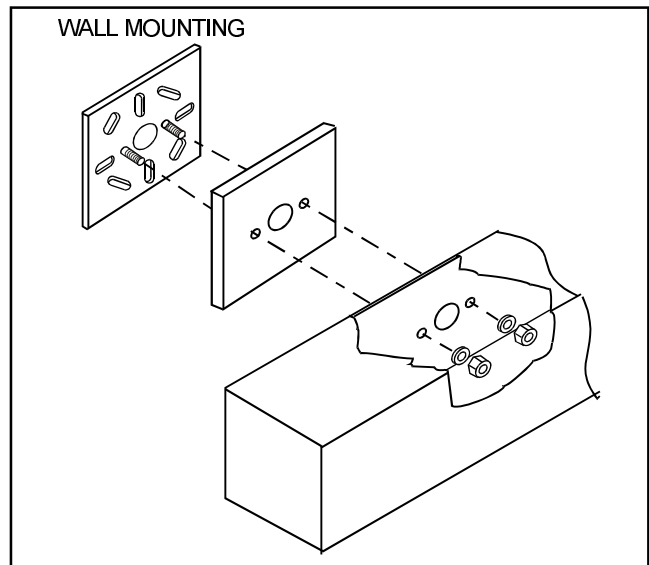

Figure 2
7. Place the cover plate over the universal mounting plate as shown in Figure 2.